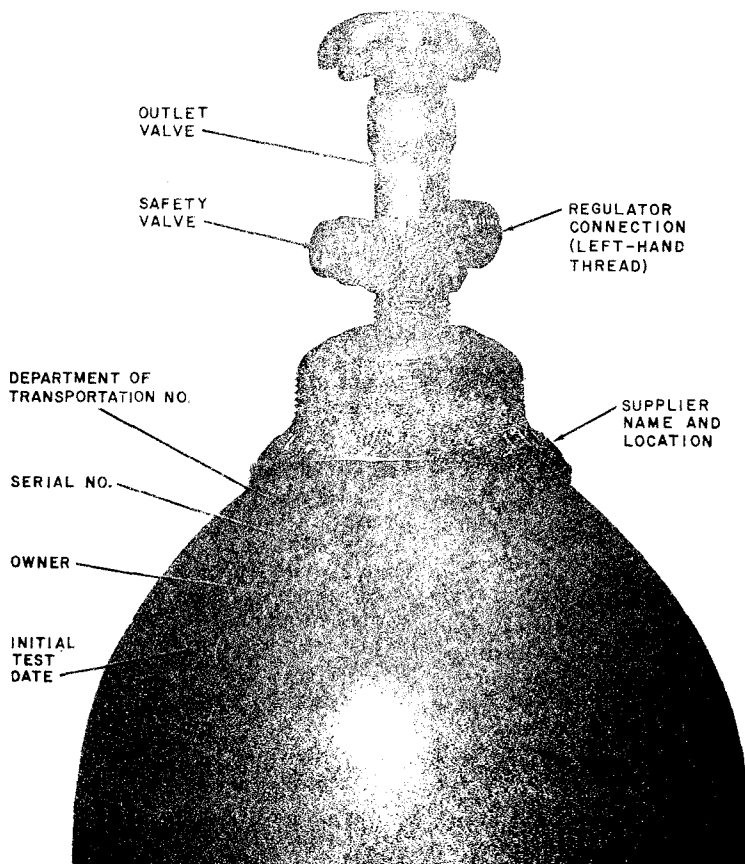

Fig. 1—112 and 224 Cubic Foot Cylinder—Typical Markings
2.06 Each cylinder is marked with a Department of Transportation (DOT) number, a serial number, and an indication of ownership (Fig. 1 and 2). Also marked on 112 and 224 cubic foot cylinders is the date of manufacture or initial test (Fig. 1), together with subsequent test dates. The distributor of 112- and/or 224-cubic foot